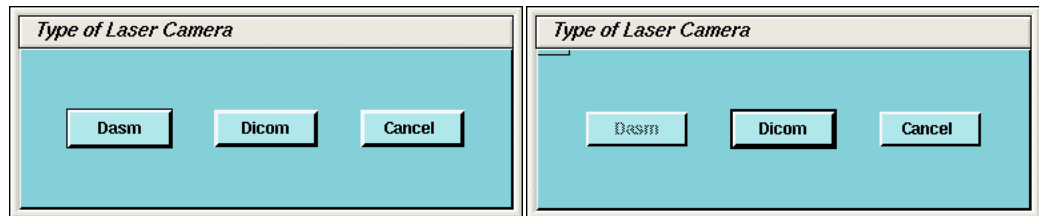

Figure 8-11 Dialog Box for camera Type
- b.) A dialog window for the camera type (DASM/DICOM) appears. If no DASM is detected during the OC boot, the DASM button will be disabled (Figure 8-11). If a DASM is present and has not been detected, reboot the OC and run the camera configuration tool again.